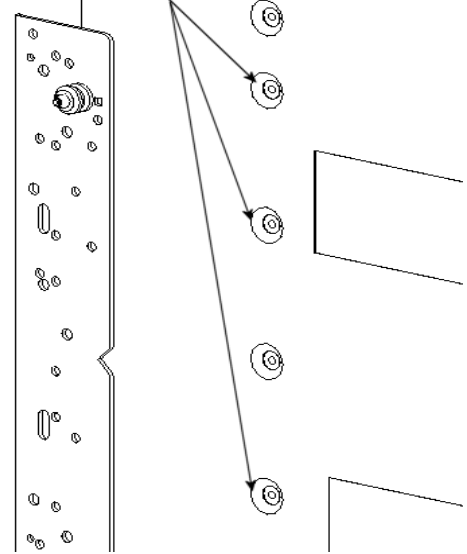

Figure 18. Spacer Location for Group 6
3. Place the Nylon spacers over the six mounting holes on your Large Flat Panel display (see Figure 18).